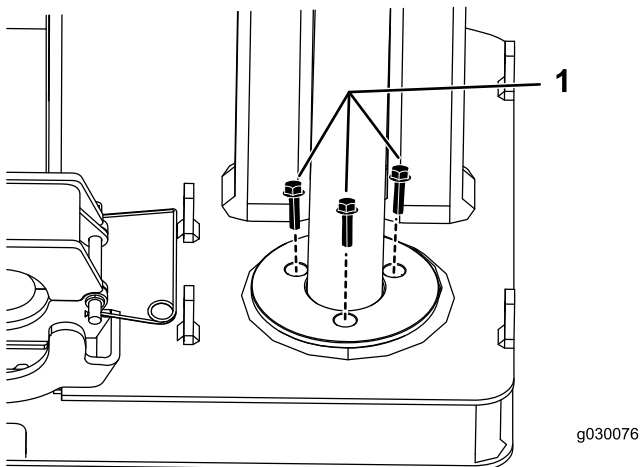

Figure 7
2. Loosely secure the stake guide to the guide ring base using the 6 Bolts (M10-1 1/2 x 25 mm) as shown in Figure 7.